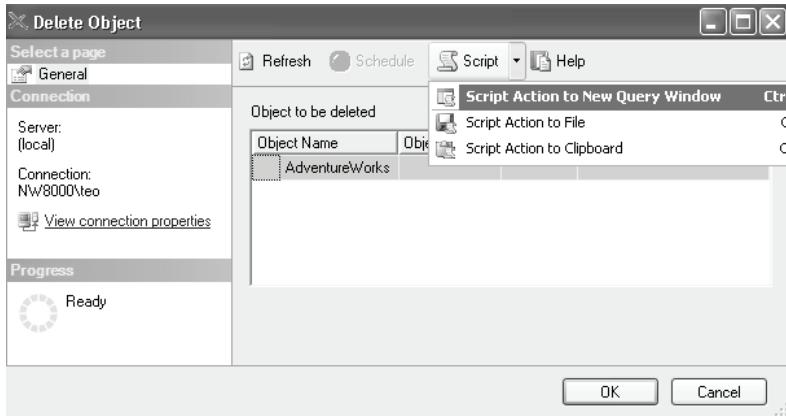

Figure 13.6 Use the Script dropdown to generate a script for the current object.
3. On the Delete Object dialog (Figure 13.6), expand the Script dropdown and select *Script Action to New Query Window* to generate the delete action. Alternatively, you can just click the Script button since *Script Action to New Query Window* happens to be the default menu. Your script should look like this: